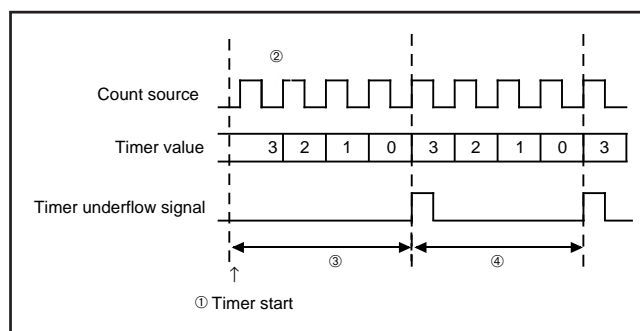

Fig. 29 Count start time and count time when operation starts (T1, T2)
Count starts from the rising edge ② in Fig. 29 after the first falling edge of the count source, after timer 1 and timer 2 operations start ① in Fig. 29.
Time to first underflow ③ in Fig. 29 is different from time among next underflow ④ in Fig. 29 by the timing to start the timer and count source operations after count starts.